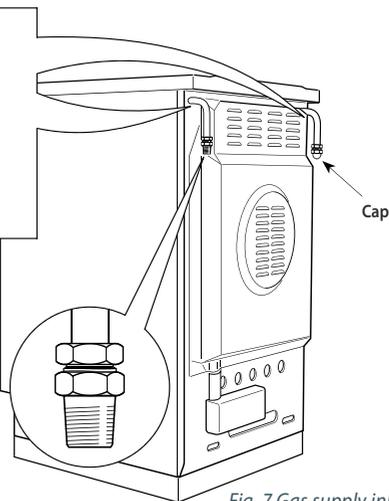

Fig. 7 Gas supply inlets
- Close off the unused inlet with the cap and sealing washer supplied (Fig. 7).
- It is important that the hose does not come in contact with the metal of the appliance and is secured as per appropriate gas installation codes. A chain 80% of the length of the flexible gas hose must be used to prevent stress being applied to the hose. The chain should be attached securely to the product where shown (see Fig.7), and on the wall.